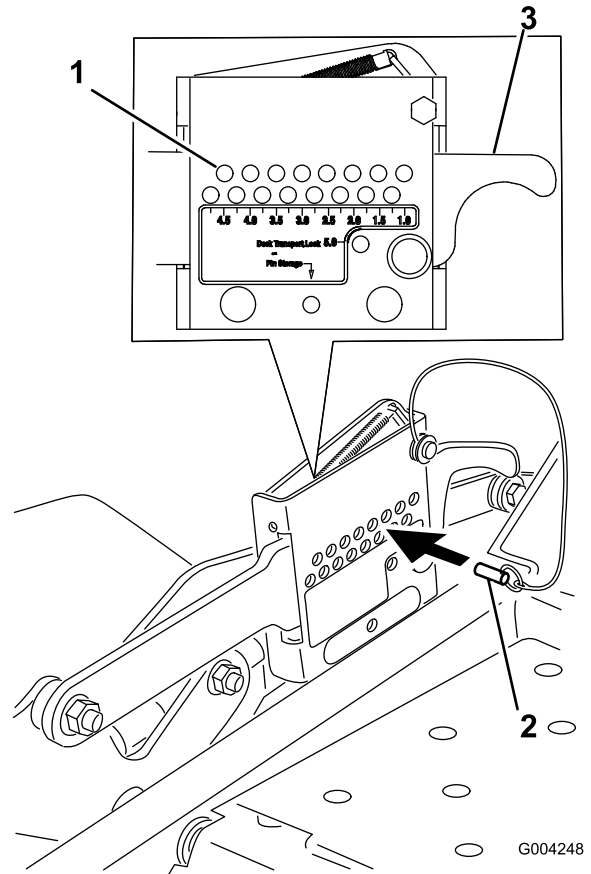

Figure 15
1. Raise the height-of-cut lever to the transport position (also the 5 inch (127 mm) cutting height position) (Figure 15).
2. To adjust, remove the clevis pin from the height-of-cut bracket (Figure 15).
3. Select a hole in the height-of-cut bracket corresponding to the height-of-cut desired and, insert the clevis pin (Figure 15).